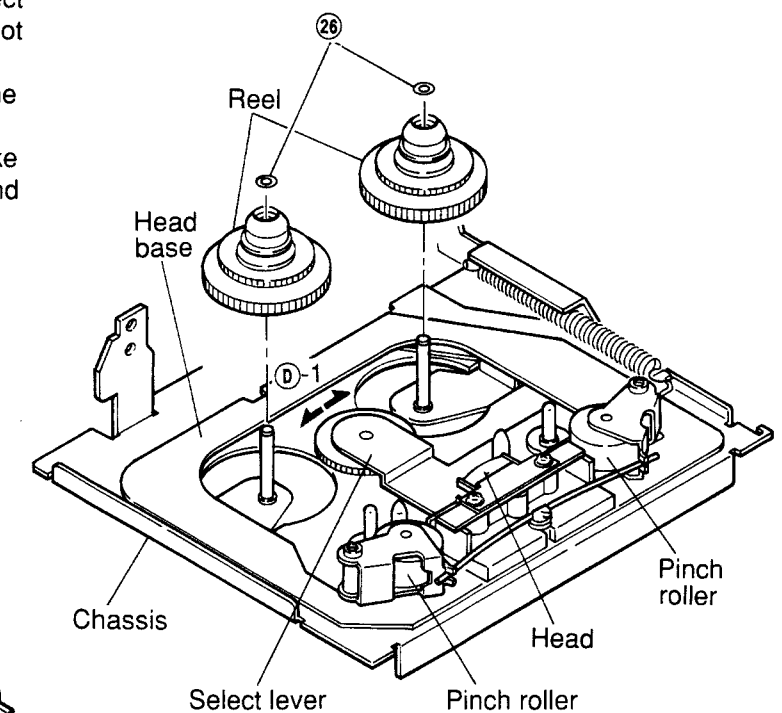

Figure 19
- (1) Remove M1.7 two lock washers ②⑥ (Refer to figure 19).
- (2) Move the select lever in the direction marked ①-1 in the Figure and remove the reel by gripping the reel gear as shown in Figure 19.
- (3) After replacement, mount the new reels following the removal steps in the reverse order.
- (4) After mounting, check the tape speed and the wow and flutter with test tape MTT-111.